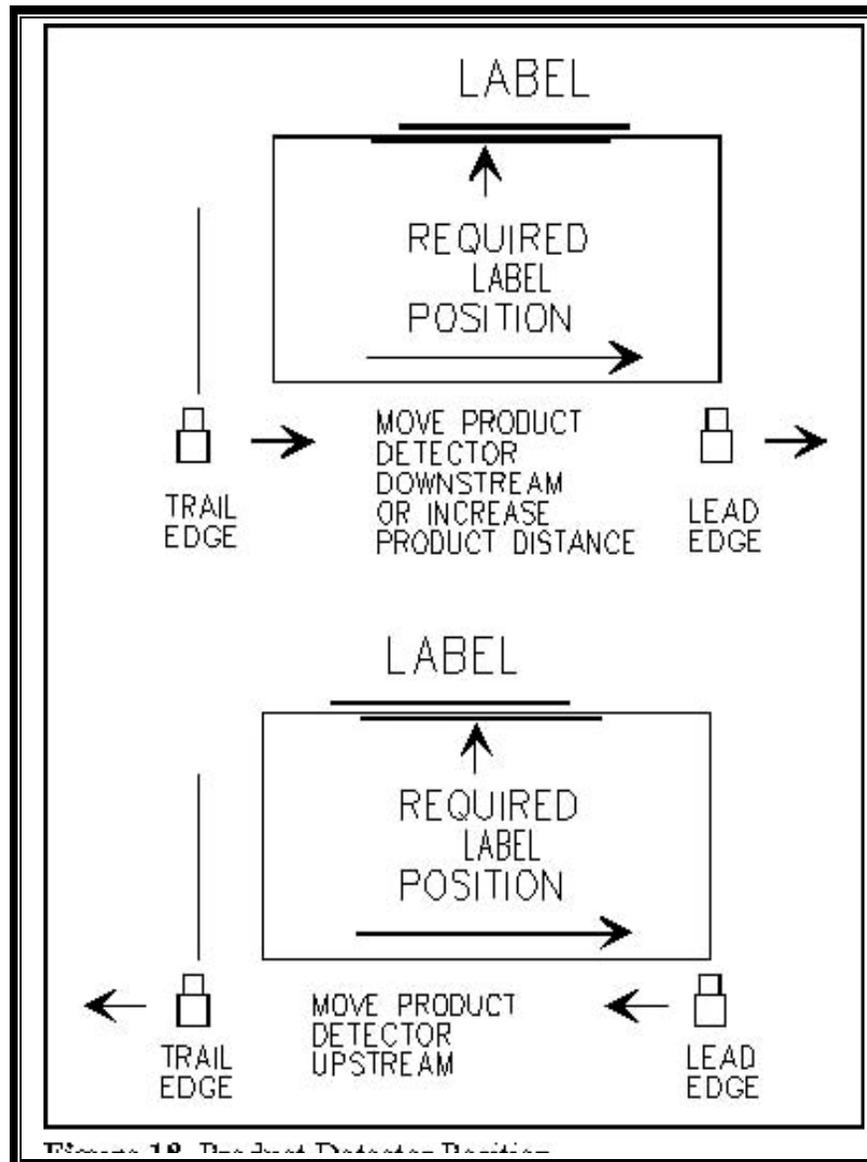

Figure 17 -PRODUCT DETECTOR POSITION
2. The applicator peeler plate tip is parallel to the product surface to be labeled. See Figure 17.
3. The peeler plate tip is 1/8 inch from the surface to be labeled. See Figure 17.
3. The rear cover window on the detector must be opened before any adjustments can be made. See Figure 17.. Press the flexible retaining clip against the cable to open the window.